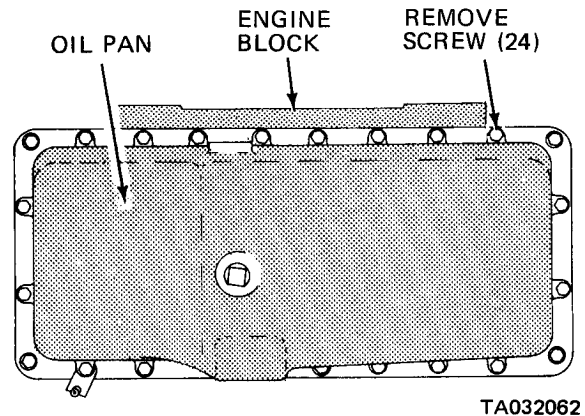
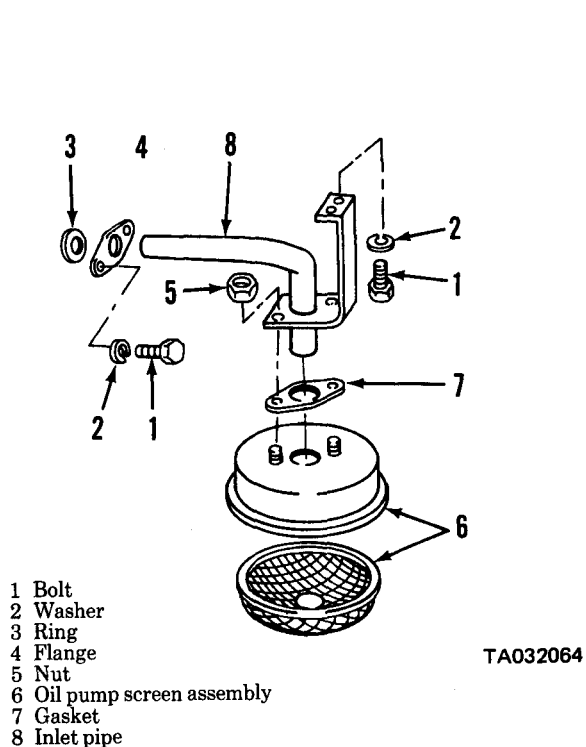

Figure 3-91. Oil pan, removal and installation.
Figure 3-93. Oil pump screen and inlet pipe, removal, disassembly, reassembly, and installation.
(1) Remove drain plug and drain the engine oil.
(2) Refer to figure 3-91 and remove the oil pan. Take care not to damage oil pump inlet pipe and screen.
(1) Remove all gasket material from engine block in area contacting oil pan.
(2) Affix a new gasket to oil pan.
(3) Refer to figure 3-91 and reinstall the oil pan.
(4) Tighten screws evenly to prevent damage to the gasket or springing the oil pan.
(5) Install drain plug and tighten to 25-35 lb-ft of torque.
(6) Refer to the lubrication order and service engine lubrication system.
(7) Start engine and check for leaks.
(1) Drain engine oil and remove oil pan (para 3-26).
(2) Remove four screws (1, fig. 3-93) and lock-washers (2) and remove the oil pump screen and inlet pipe.
(3) Remove ring (3) and flange (4).
c. Disassembly. Disassemble the oil pump screen and inlet pipe in numerical sequence shown in figure 3-91.
(1) Clean all metal parts thoroughly, using clean-
(2) Inspect the inlet pipe for evidence of clogging.
(3) Inspect the inlet pipe for deep dents and cracks.
(4) Inspect mounting hardware for damaged threads.
(5) Inspect screen for breaks or holes which would permit the entry of foreign material in the inlet pipe
(6) Replace all defective parts.
e. Reassembly. Reassemble the oil pump screen and inlet pipe in reverse of numerical sequence as shown in figure 3-91.
(1) Install inlet pipe and screen in reverse of removal (*b* above.)
(2) Install oil pan (para 3-26).
(3) Refer to lubrication order and service engine lubrication system.
(4) Start engine and check for leaks.